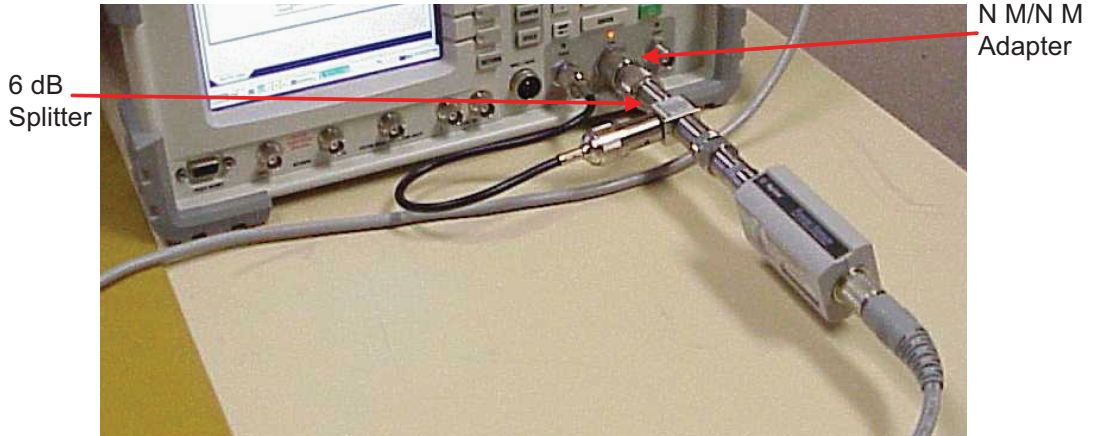

Fig. 4-32 T/R Port Linearity Calibration Setup
3.	Configure equipment. Refer to Fig. 4-32 as needed.